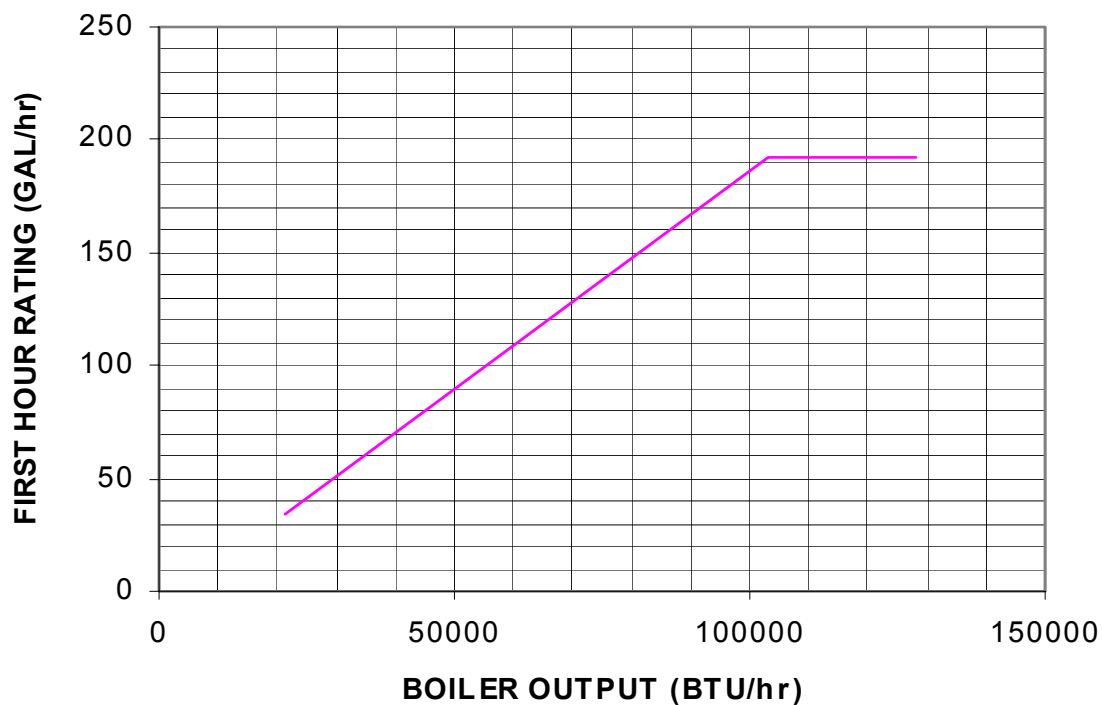

Figure 4a: MT040G Ratings at Different Boiler Outputs
- a) Using Worksheet 2, determine and record the total number of each type of fixture in the building under column (2).
- b) Use Table 3 to find the number of gallons of 135F water used per hour. Record this value per fixture in column (1). Hourly usage of some commercial kitchen fixtures is shown in Worksheet 2.
- c) Multiply each line in column (1) by the number in column (2). The result is the total amount of water used for each type of fixture per hour. Record this in column (3).
- d) Total column (3). The result is the total amount of water used by all fixtures per hour. This is the POSSIBLE MAXIMUM DEMAND.
- f) If a commercial dishwasher or laundry is on the job, determine the maximum amount of 135F water, which could be used in the hour. This will depend upon the number of machines, the amount of water used per machine, and usage pattern. Consult the machine manufacturer and the building owner for this information. Once the maximum hourly usage is known for this equipment, enter it in the spaces provided under Column (3).
- Use the appropriate graph in Figures 4a-4d to determine the boiler output needed to generate the required First Hour Rating.
- Use the appropriate graph in Figures 4a-4d to find the First Hour Rating that can be expected with the boiler on the job.